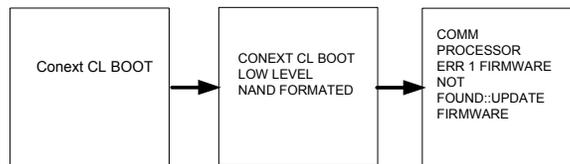

Figure 1-12 Low level format screen
- f) When Grid LED & PV LED start glowing steady, immediately press the "ESC" button 3 times and press the "HOME" button 1 time within 10 sec and confirm below mentioned LCD messages are appeared in sequence as shown in Figure 1-12 on page 1–15.